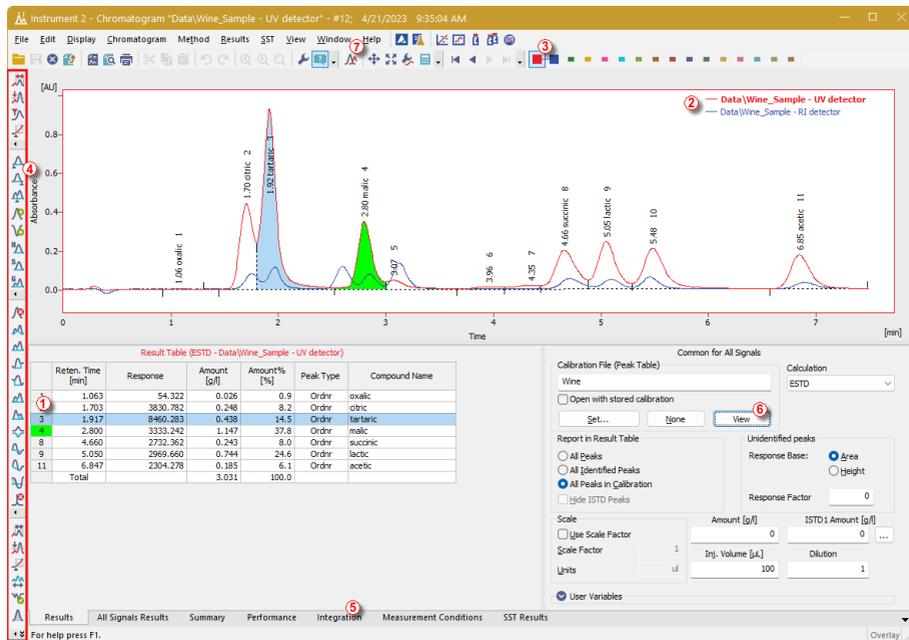

Fig. 14: The Chromatogram window
- Multiple chromatograms may be displayed at once. Switch to the *Overlay* mode by pressing the *Overlay*  button found on the *Overlay* toolbar (⑦ in **Fig. 14** on pg. 23.) and then use the *File - Open Chromatogram...* command or the *Open Chromatogram*  icon. It is now possible to select several files to be opened in the *Open Chromatogram* dialog. You can click the *Overlay*  button again to close all the chromatograms except the currently selected one.